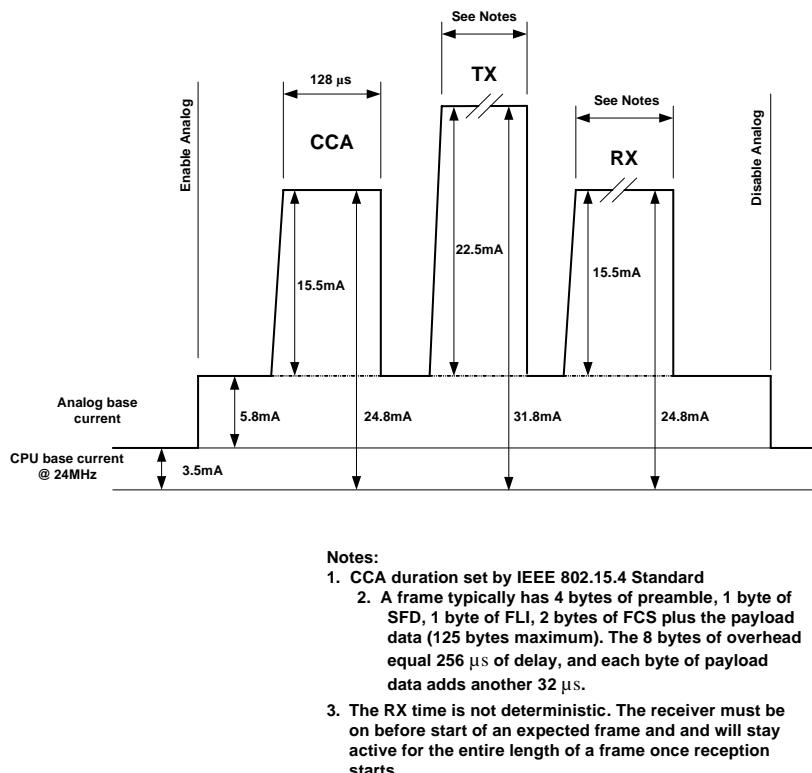

Figure 3-20. MC1322x Operating Current Profile
Figure 3-20 shows how the MC1322x operating current varies versus operational mode:
- TX and RX duration are dependent on the frame length (see Notes in Figure 3-20). Also, the RX duty cycle may be difficult to predict because the radio must be in receive in anticipation of a frame, and this can be highly dependent on the use model.